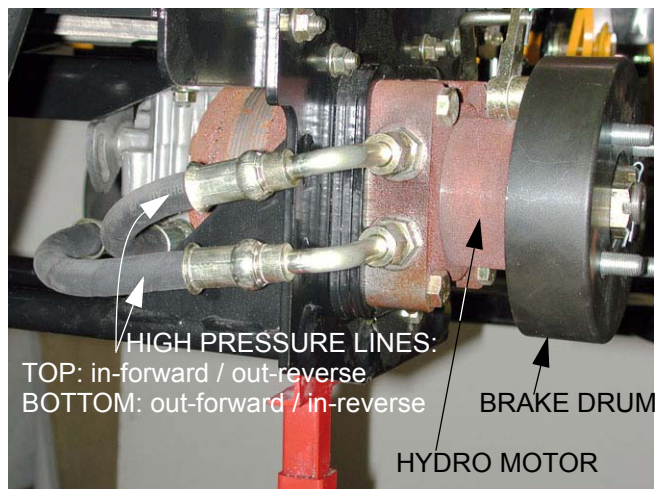

Figure 4.3
4.3. Remove the rear wheels using a 3/4" socket. See Figure 4.3.